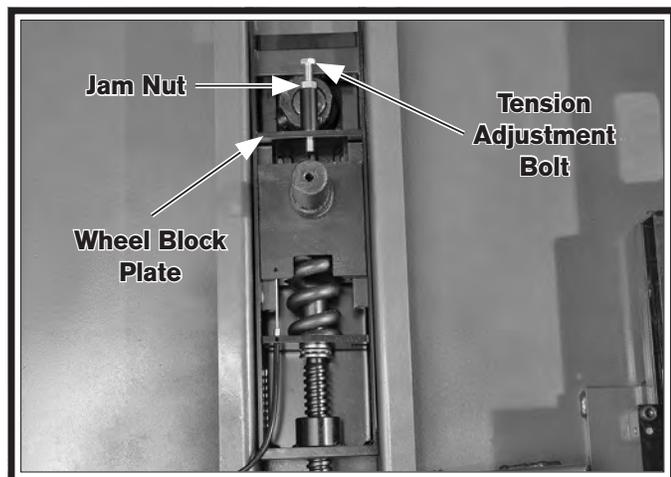

Figure 94. Components for adjusting quick-release lever.
- Loosen jam nut on tension adjustment bolt 7–10 turns (see **Figure 94**).